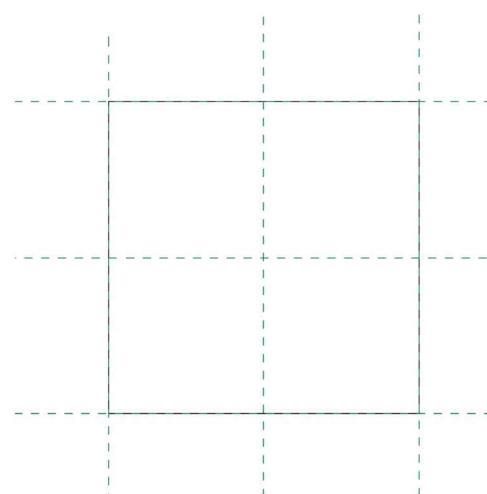

FIGURE 17-2.13 Side of 3D box aligned with *Reference Planes*
23. **Align** and **Lock** the other three sides of the box (Figure 17-2.13).